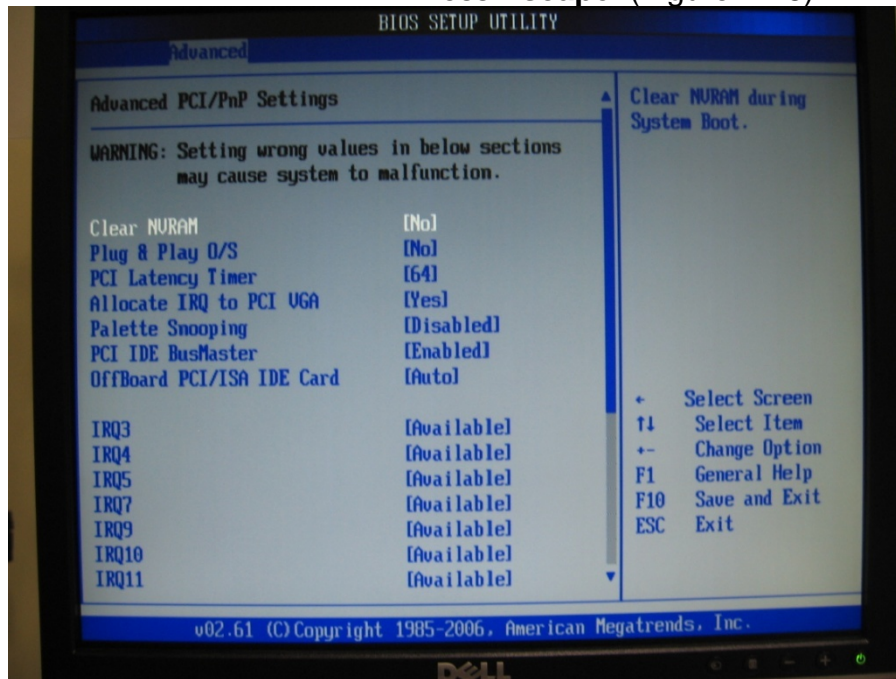

Figure 7-18 PCIPnP Default Settings Screen
7. On the **Advanced** options screen, scroll down and select **PCIPnP**. Press **Enter**. (Figure 7-18). Figures 7-19, 7-20, show the various default settings. Leave on Default then press **Escape** to return back to the **Advanced** settings Screen. (Figure 7-17).
8. Default settings for **PCIPnP Configuration**, Press **Escape**. (Figure 7-18).